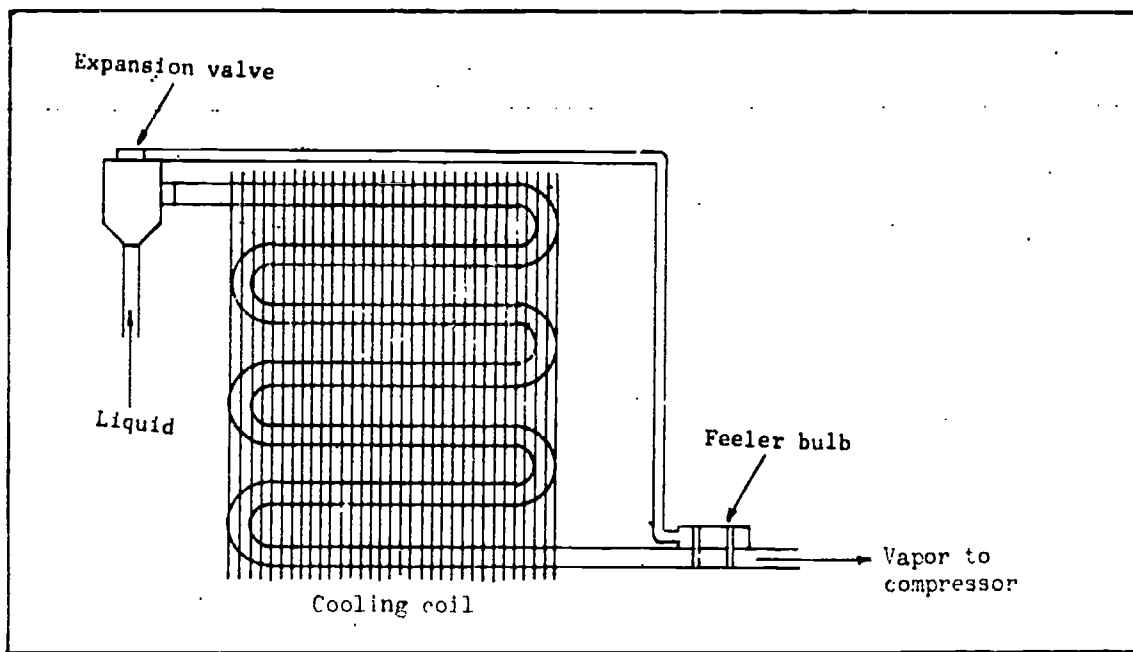

Fig 2-14. Diagram of dry-expansion evaporator.
- (b) The dry-type valve (fig 2-14) uses an expansion valve to meter the refrigerant into the evaporator. In this type, the refrigerant enters the evaporator primarily as a liquid and by the time it has traveled through the evaporator, it has completely vaporized. Therefore, the refrigerant in the greatest portion of the evaporator is a mixture of liquid and vapor. These types of evaporators are constructed with from two to twenty-two parallel circuits and are fed by one expansion valve. Some models use an additional distributing device or devices, usually depending on capillary tubes, to evenly distribute the refrigerant to the separate circuits of the evaporator. The dry-expansion-coil evaporator is most commonly used in air-conditioning systems.